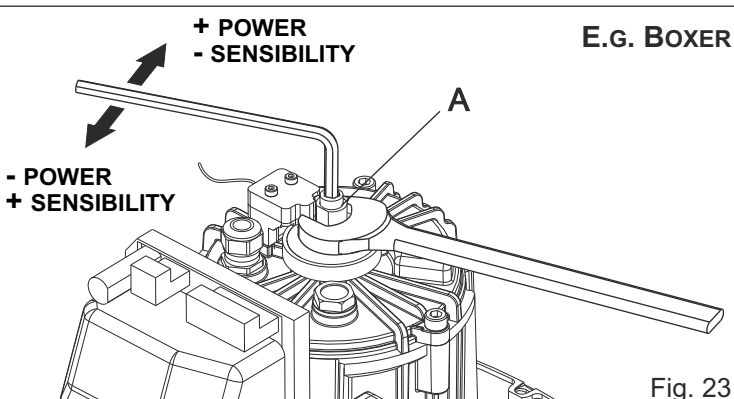

Fig. 23
9.2. In order to adjust the clutch, act on the grub screw "A" (Fig. 23) as follows: